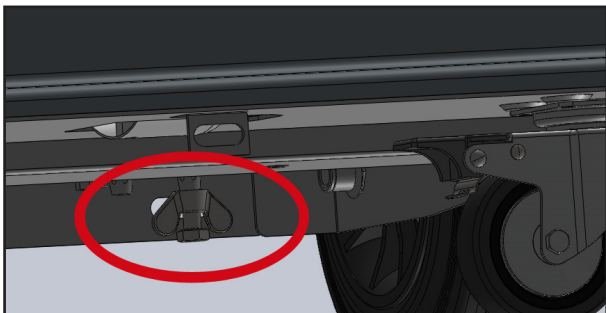

Fig. 13: Removing refrigerant load cell retention bolt
1. On the underside of the unit (towards the rear), there is a screw with a wingnut threaded into the base. Loosen the wingnut and unscrew bolt (Fig. 13).